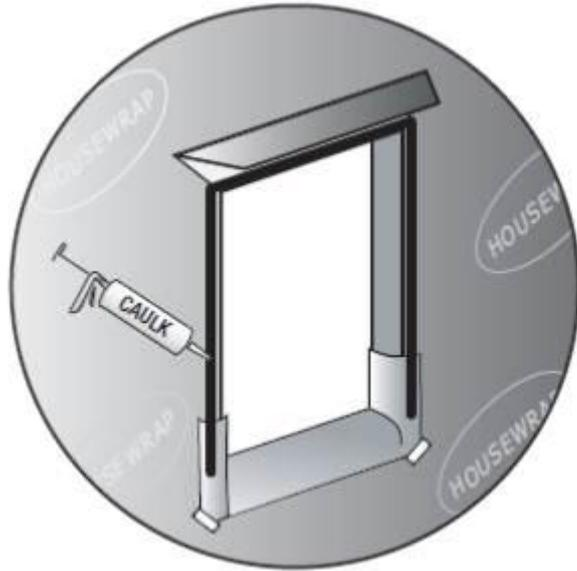

Figure 4 - Caulk the top and sides of the window rough opening, but not the bottom. ⓘ
3. Caulk the outside edges of the head and side jambs and install the window. See Figure 4.